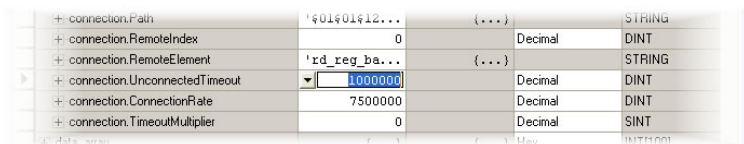

Figure 94: Reduce the Unconnected Timeout Value
- Select the "Monitor Tags" tab. Expand the "connection" tag by clicking on the "+" sign next to the tag name. Scroll down to the connection.UnconnectedTimeout field and change its value from the default 30000000 (30s in 1uS increments) to 1000000 (1s). This value determines how long to wait before timing out and retransmitting a connection request if a connection failure occurs. Refer to Figure 94.